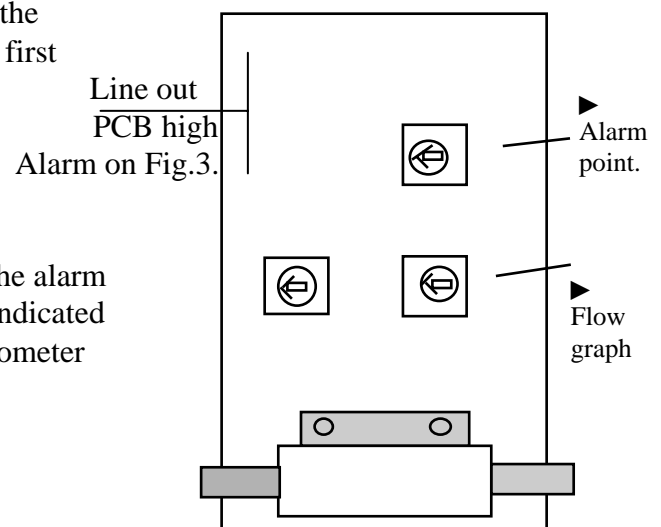

Fig. 2: PCB low alarm
7. Adjust the segments on the bar graph by turning the potentiometer indicated with ► on figure 2. The first 6 segments on the bar graph should be activated. Use a screwdriver made from plastics in order not damage the potentiometer.
8. When the bar graph has been adjusted properly the alarm point has to be set by turning the potentiometer indicated with ► on figure 2. The LED next to the potentiometer should just turn on for correct adjustment.